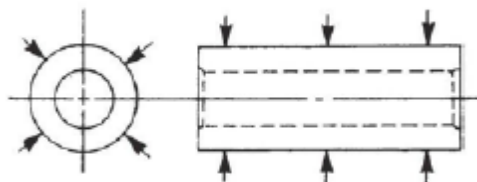

Figure 92.
6. Measure the outside diameter of the piston pin in three places and at 90° (Figure 92). See the *Mechanical Specifications Chart*. Record the measurements.